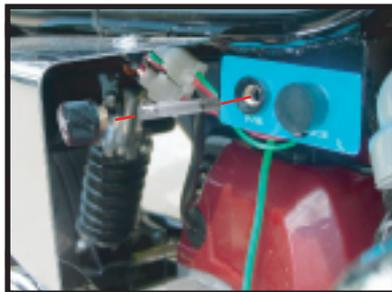

Fig. 1
2. Unscrew the fuse cap (counter clockwise) located on the charger receptacle panel. (Fig. 1)